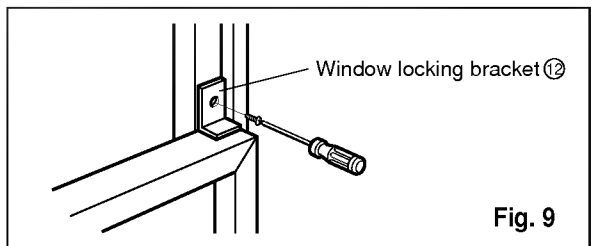

Fig. 9
12. Attach the window locking bracket ✕ with a type C screw. (See Fig. 9)